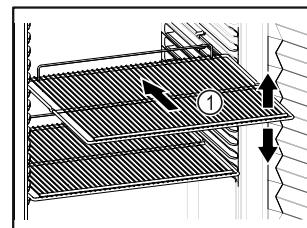

Fig. 64 Example illustration
- If there are adjustable shelves Fig. 64 (1), position them as required.